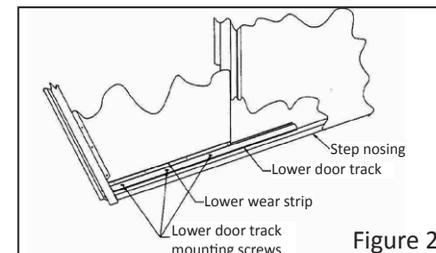

Figure 2
- Remove all screws that fasten down the lower door track (see figure 2).